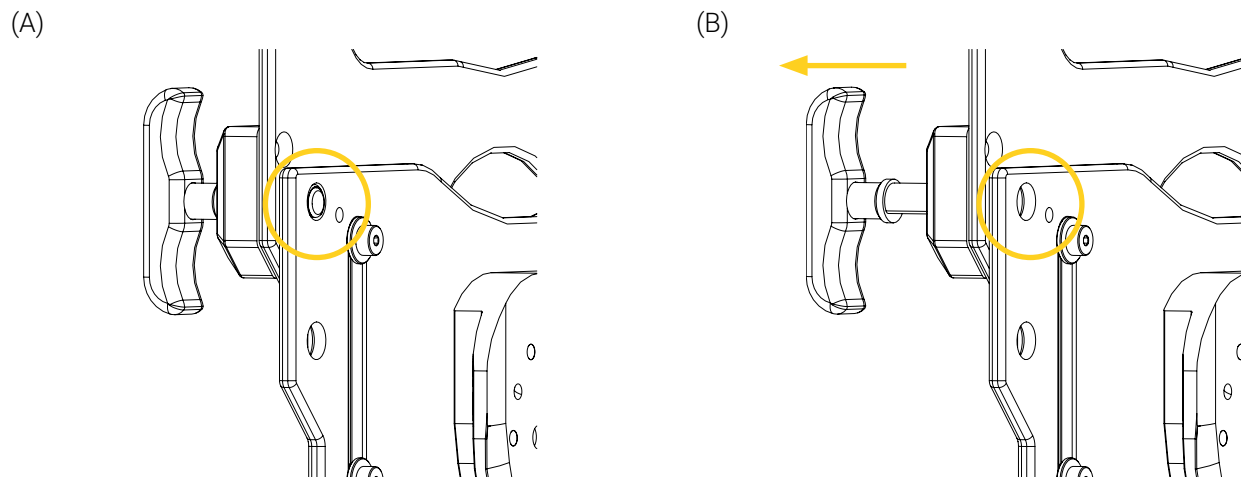

Figure 8: Retracting and locking the BP75–FL MCD
1. Pull and hold the spring-loaded quick-release pin forward to unlock the mounting bracket (Figure 8).